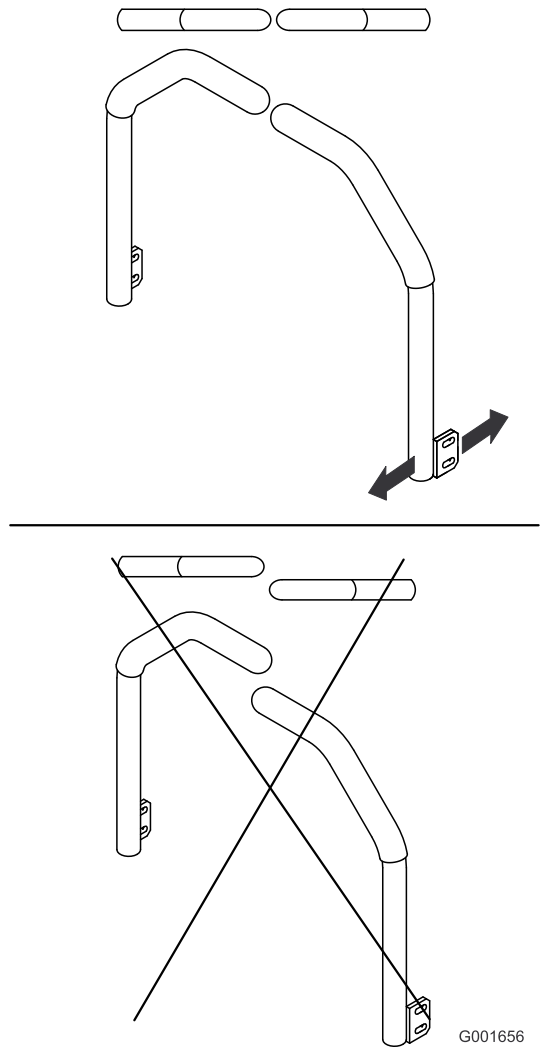

Figure 84
5. Adjust the control levers so that they line up and tighten the bolts, securing the levers to the posts (Figure 84).